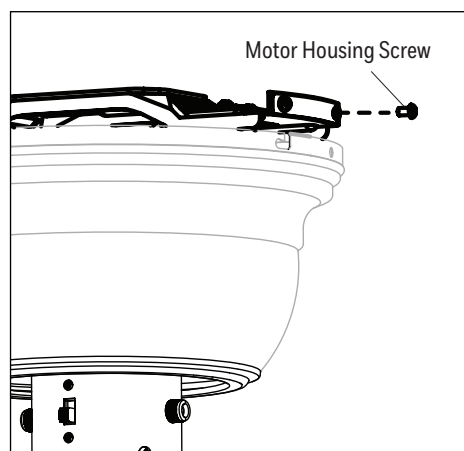

Figure 4.2
2. Temporarily lift the motor housing to the mounting bracket to determine which two motor housing screws in the sides of the upper mounting bracket align with the slotted holes in the top edge of the motor housing. Partially loosen the two motor housing screws that align with the slotted holes. Remove the other two motor housing screws from the opposite sides of the mounting bracket (Figure 4.2).